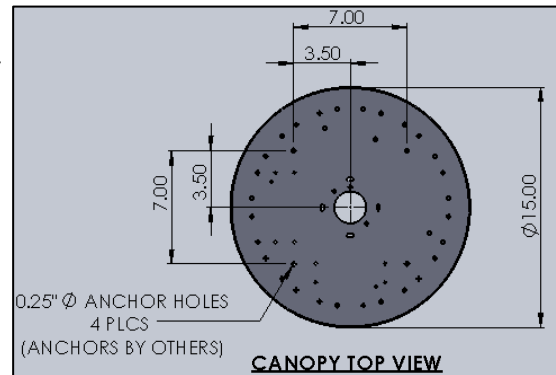

FIG. 9 – DETAIL SHOWING ANCHOR LOCATIONS
3. If additional Mounting Points are required, SEE DETAIL SHOWING ANCHOR LOCATION below as shown in FIG. 9 for ANCHOR HOLE Location. Anchor Bodies and anchor screws by others.